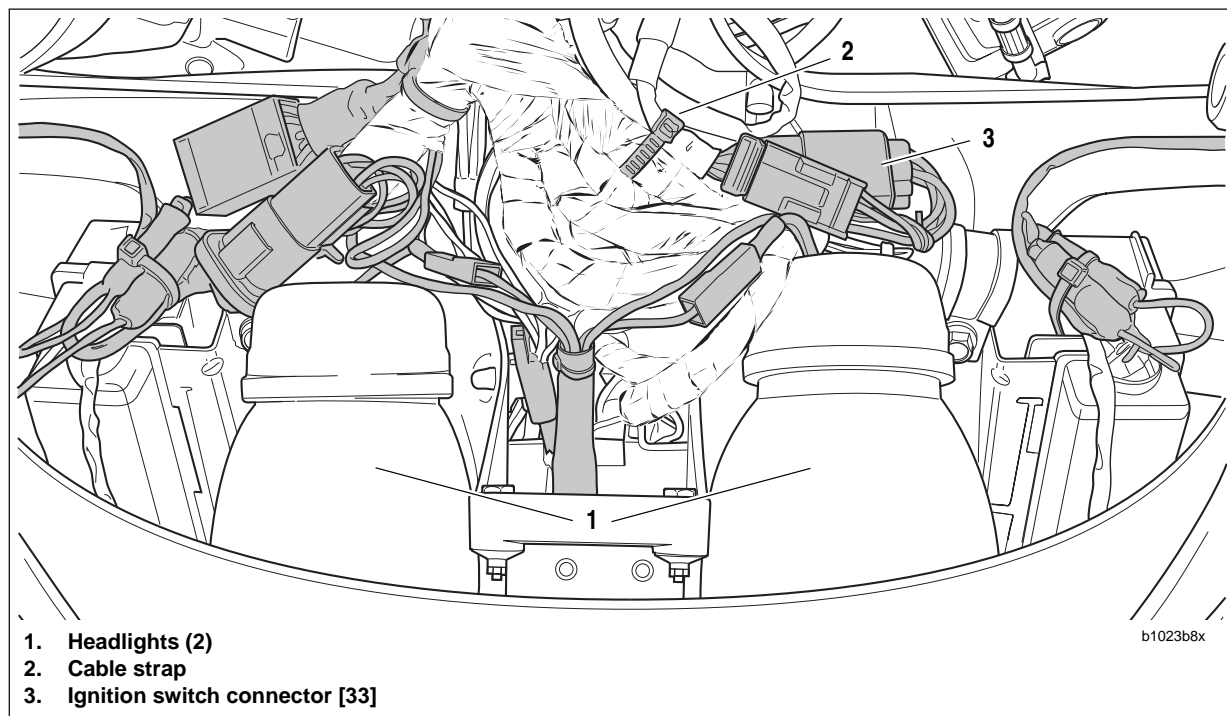

Figure 7-6. Ignition Switch Connector (viewed from beneath fairing)
3. See Figure 7-6. Cut cable strap (2) holding ignition switch, fuse block and right handlebar switch wires.
4. Disconnect ignition switch connector [33] (3).
- a. Apply LOCTITE 271 to upper fork clamp pinch fasteners (1).
- d. Install steering stem pinch fastener (2) applying LOCTITE 271 and tightening to 23-25 ft-lbs (31-34 Nm).
5. See Figure 7-6. Connect ignition key switch connector (3) to wiring harness. Install cable strap (2) around ignition switch, fuse block and right handlebar switch wires.